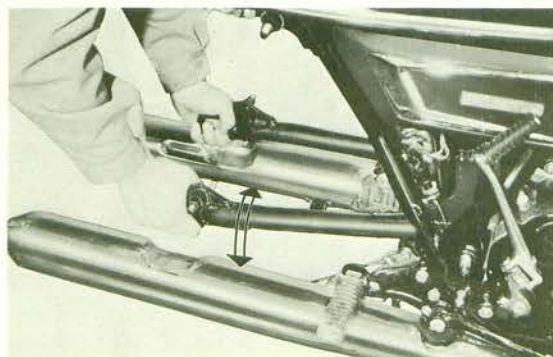

Fig. 4-11-4
- 1) Check the play of the rear arm by shaking it as shown in Fig. 4-11-4, with the rear arm installed. If the play is excessive, replace the rear arm bushing or the rear arm shaft, whichever shows wear.